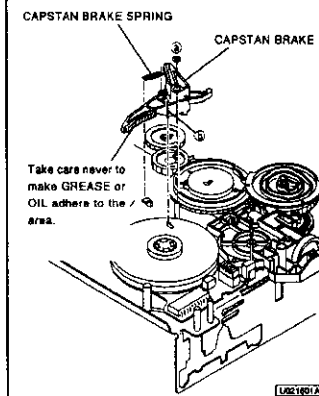

Fig. 2-16-1
- 1 Remove the CAPSTAN BRAKE SPRING shown in Fig. 2-16-1.
- 2 Remove the CUT WASHER (a) fastening the CAPSTAN BRAKE shown in Fig. 2-16-1.
- 3 Unfasten the catch (b) on the surface of the CAPSTAN BRAKE shown in Fig. 2-16-1 with tweezers, etc. to remove the CAPSTAN BRAKE.
- 1 Install the CAPSTAN BRAKE shown in Fig. 2-16-1.
- Note: Take care never to make GREASE or OIL adhere to the area specified in Fig. 2-16-1 during installation of the CAPSTAN BRAKE.
- 2 Install the CUT WASHER (a) shown in Fig. 2-16-1 to fasten the CAPSTAN BRAKE.
- 3 Install the CAPSTAN BRAKE SPRING shown in Fig. 2-16-1.